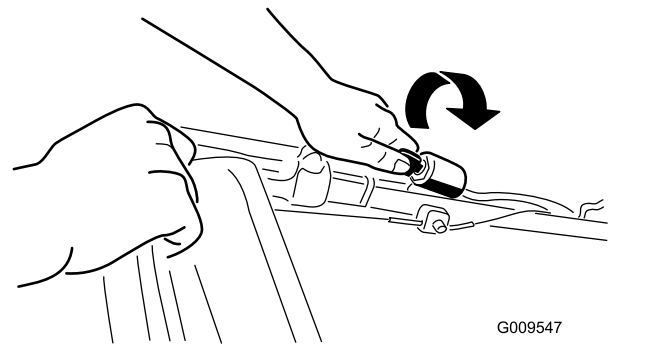
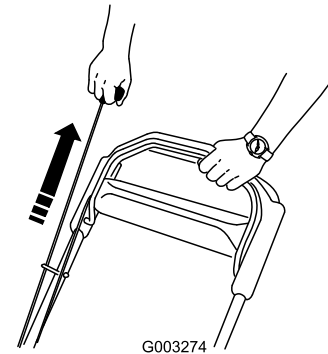

Figure 16
Figure 17
2. Turn the ignition key (Figure 16) or pull the recoil-start handle (Figure 17).
**Note:** When you pull the recoil-start handle, pull it lightly until you feel resistance, then pull it sharply (Figure 17). Allow the rope to return to the handle slowly.